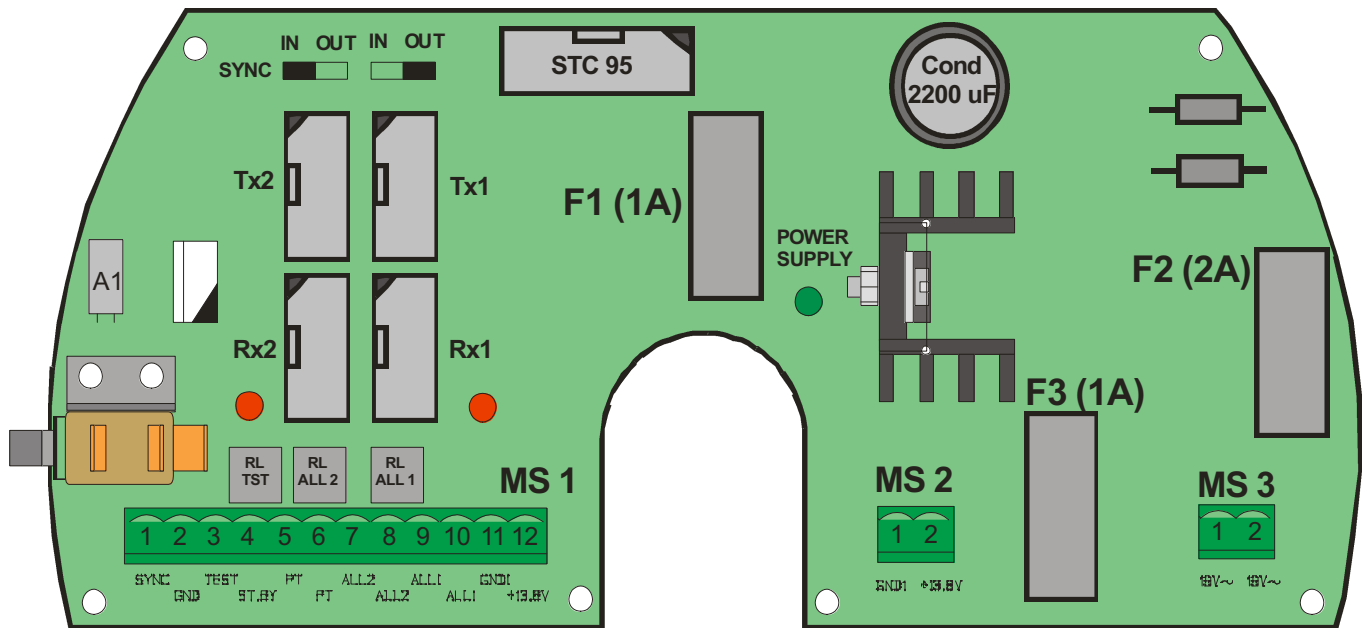

Fig. 2
- Terminate the a.c. wires (19 Vac) onto terminals 1 and 2 of MS3 on the POWER SUPPLY circuit (fig.2).
- Check that module RF TX is connected to connector TX1 on the POWER SUPPLY circuit (fig. 2).
3.1.1 – Insert the connector of the STC 95 onto the STC 95 connector of the POWER SUPPLY circuit (fig. 2) and proceed as follows :
- Terminate the a.c. wires (19 Vac) onto terminals 1 and 3 of MS3 on the POWER SUPPLY circuit (fig.2).
- Check that the green LED, on the POWER SUPPLY circuit (fig.2), indicating presence of mains lights up.
- Check that module RF RX is connected to connector RX1 on the POWER SUPPLY circuit (fig. 2).
3.2.1 – Insert the connector of the STC 95 onto the STC 95 test connector of the POWER SUPPLY circuit (fig. 2) and proceed as follows :
3.2.17. – Carry out the crossing trials to check for the presence of an intermittent sound and then, following the presence of an alarm, for a continuous buzz. The activation of an alarm indication lights up, on the RX POWER SUPPLY circuit, the red LED that is situated on the right of the Rx1 connector and opens the alarm relay contact (terminals 9 and 10 of MS1) (fig. 2).